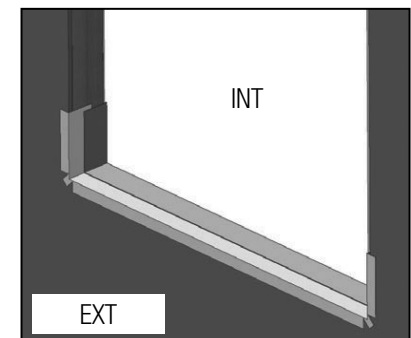

FIG. 9
- F) Flashing tape must cover the entire sill plate. If needed, apply an additional flashing piece over the first one (start from the exterior and work toward the interior). Maintain a minimum 1" overlap. (Fig. 9)